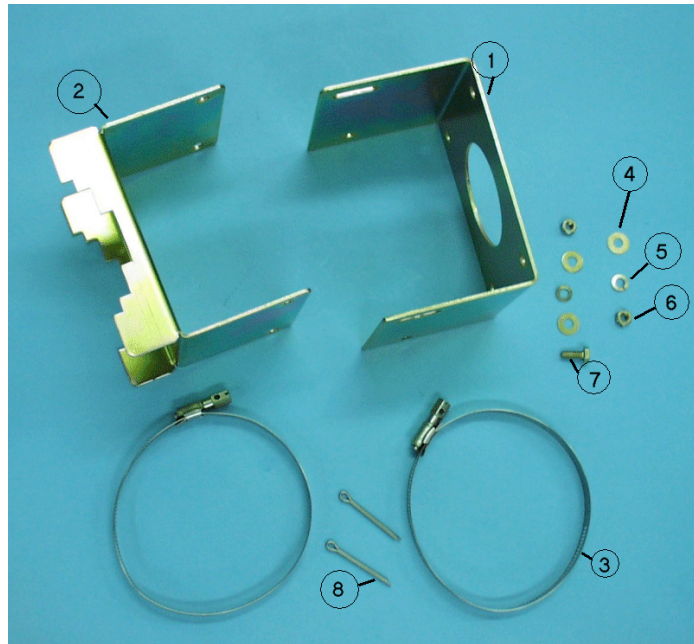

Figure 3-19: MD – 0087 Mounting Kit Parts
4. Connect the ground cable to the grounding screw on the rear of the BS-RFU (see Figure 3-19 below).